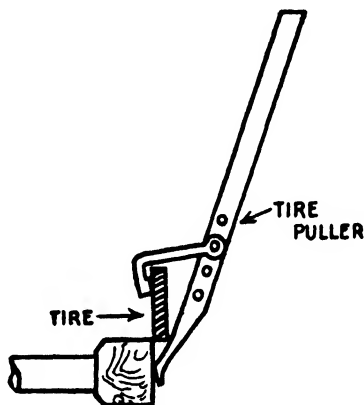

FIG. 66
14. Place the tire upright in the large forge fire, supporting it on bricks placed on each side of the fire pot. Have a chisel mark on the tire next to the chimney. Heat to a red heat, then turn the tire in the fire about a foot, and heat again. Continue to heat and turn until the tire is hot all the way around. Turn the tire down so it lies flat on the forge, grasp it with tongs to the left of the chisel mark. Place the tire on the rim so that the chisel mark on the tire and the mark on the felloe coincide. With a tire puller (Fig. 66) or a wide-jawed pair of tongs in the left hand and a hammer in the right, force the tire down over the rim by clamping over the top edge of the tire and under the edge of the rim and